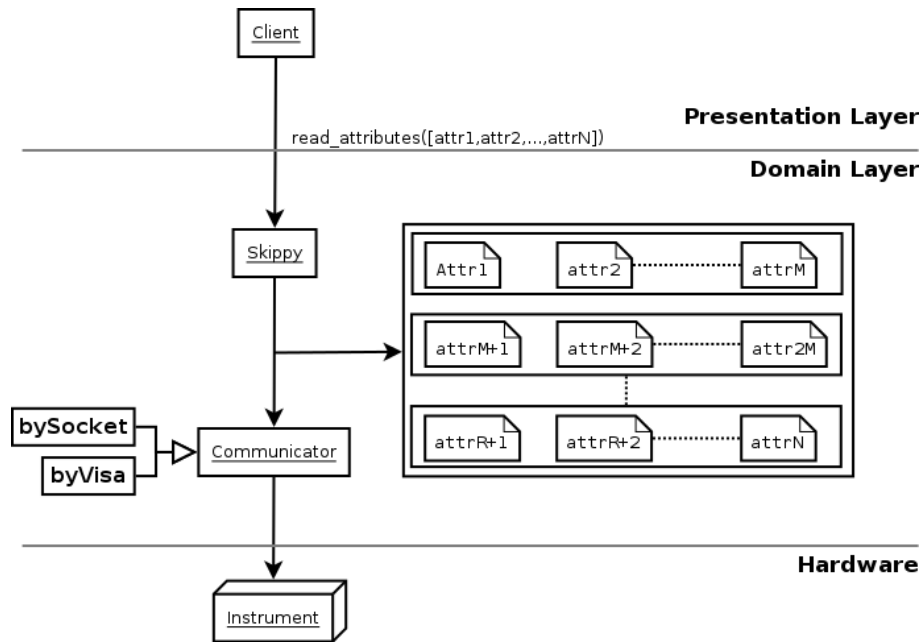

Figure 3: multiple request of readings to the instrument.
- Multiple request of data to the instrument: As figure 3 describes, when the device receives a request for reading to the instrument it can manage to cut those requests in subsets to avoid stress in the instrument. The communication itself supports a direct socket connection to the instrument and the use of the *PyVisa* device as a bridge in the communication.